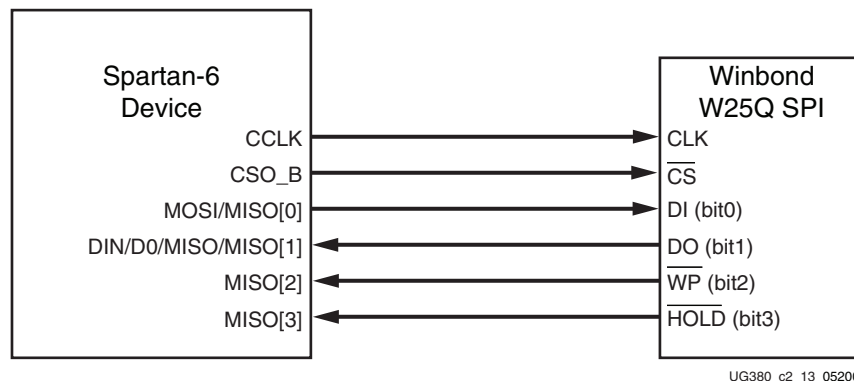

Figure 2-13: Master Serial Quad-Bit SPI Configuration
Figure 2-12 shows the connections for an SPI configuration with a data width of x1 or x2. These connections are the same because the x2 flash devices use the D pin as a dual purpose Data In/Out pin. Connections for the SPI x4 option are shown in Figure 2-13, page 43; two additional data pins provide a 4-bit data interface. Daisy-chained configuration mode is only available in SPI x1 mode. The FPGA pin connections to the SPI flash PROM involved in the Master SPI mode are listed in Table 2-5.
Spartan-6 FPGAs also support x4 configuration with SPI PROMs in Master Serial Mode. See Figure 2-13.
Notes relevant to Figure 2-13:
1. The connection shown in Figure 2-13 uses the Winbond W25Q SPI series flash PROM. Other SPI devices are supported, including devices from Spansion and Micron. For a